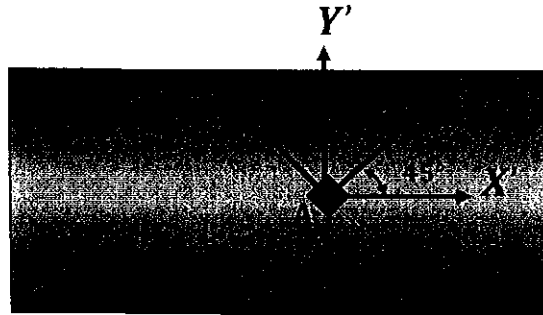

Figure 3A: Structure with element A
A point A on the structure in Figure 3A is subjected to in-plane stresses as shown in Figure 3B.
- (c) Determine the normal and shear stresses in the X'-Y' directions, draw a stress element to show the calculated stresses, and mark the state of stress in the X'-Y' directions on the Mohr's circle. Note: The X' axis is oriented at  $45^\circ$  from the X axis as shown in Figure 3A.